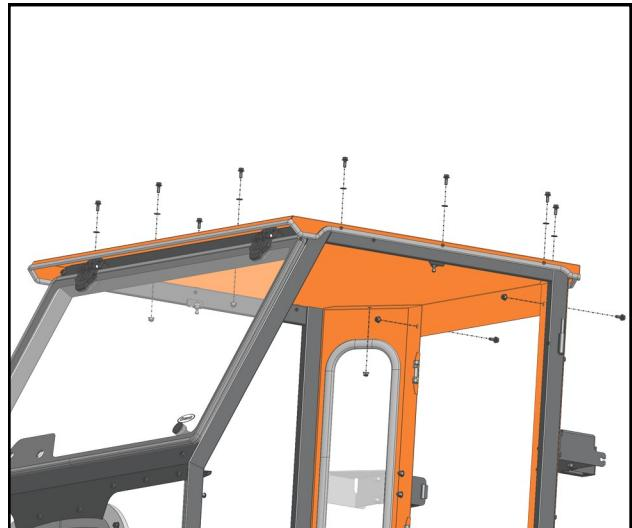

Fig. 8.2 (Roof)
- 8.2 With assistance, set the roof on top of the Side Frames, Windshield Support, and Rear Legs. See Figure 8.2. Loosely secure with sealing washers on the ten (10) screws through the top of the roof, and no sealing washers on the two (2) screws through the back of the Rear Legs.